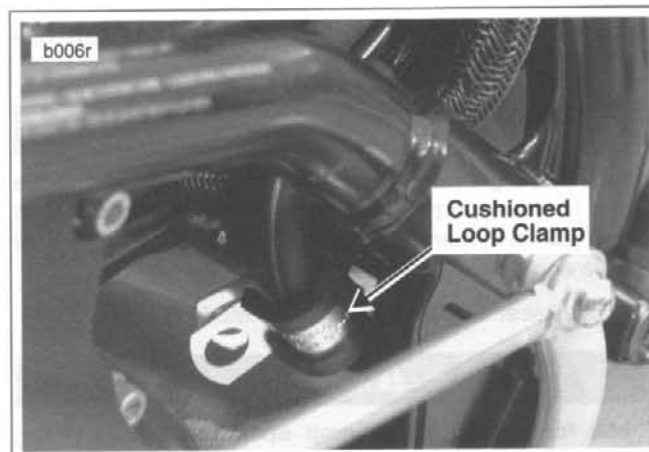

Figure 2-93. Loop Clamp Orientation Before Installation
5. See Figure 2-93. Install loop cushioned clamp to brake line and then to bolt side of tie bar fasteners. Loop clamp is oriented down and to the left. Install tie bar to frame with bolt, washer and loop cushioned clamp on lower side of tie bar and **new** locknut on upper side of tie bar. Tighten to 30-33 ft-lbs (40.7-44.7 Nm).